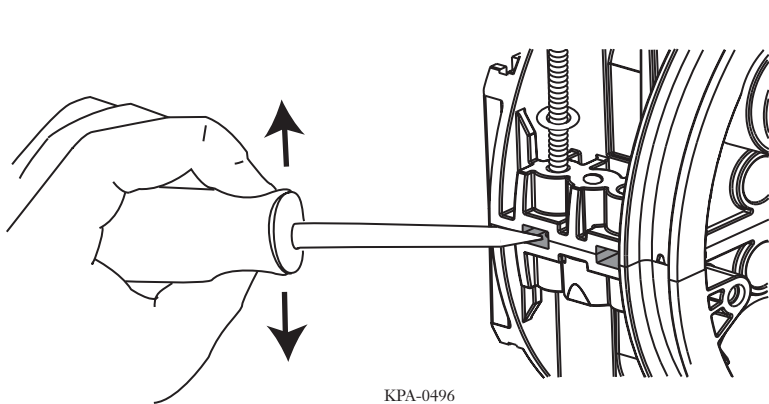

Figure 63 — Insert Screwdriver
- Step 5** Insert a flat screwdriver in the square opening on either side of the end cap to help pry open the end cap segments (Figure 63).